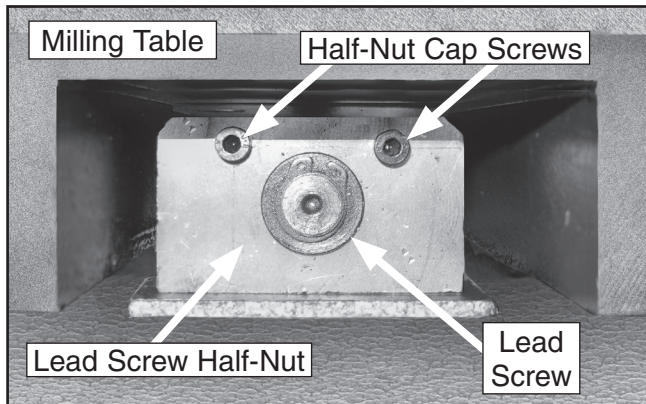

Figure 4. X-axis leadscrew backlash adjustment.
4. Locate the X-axis lead screw half-nut (see **Figure 4**).